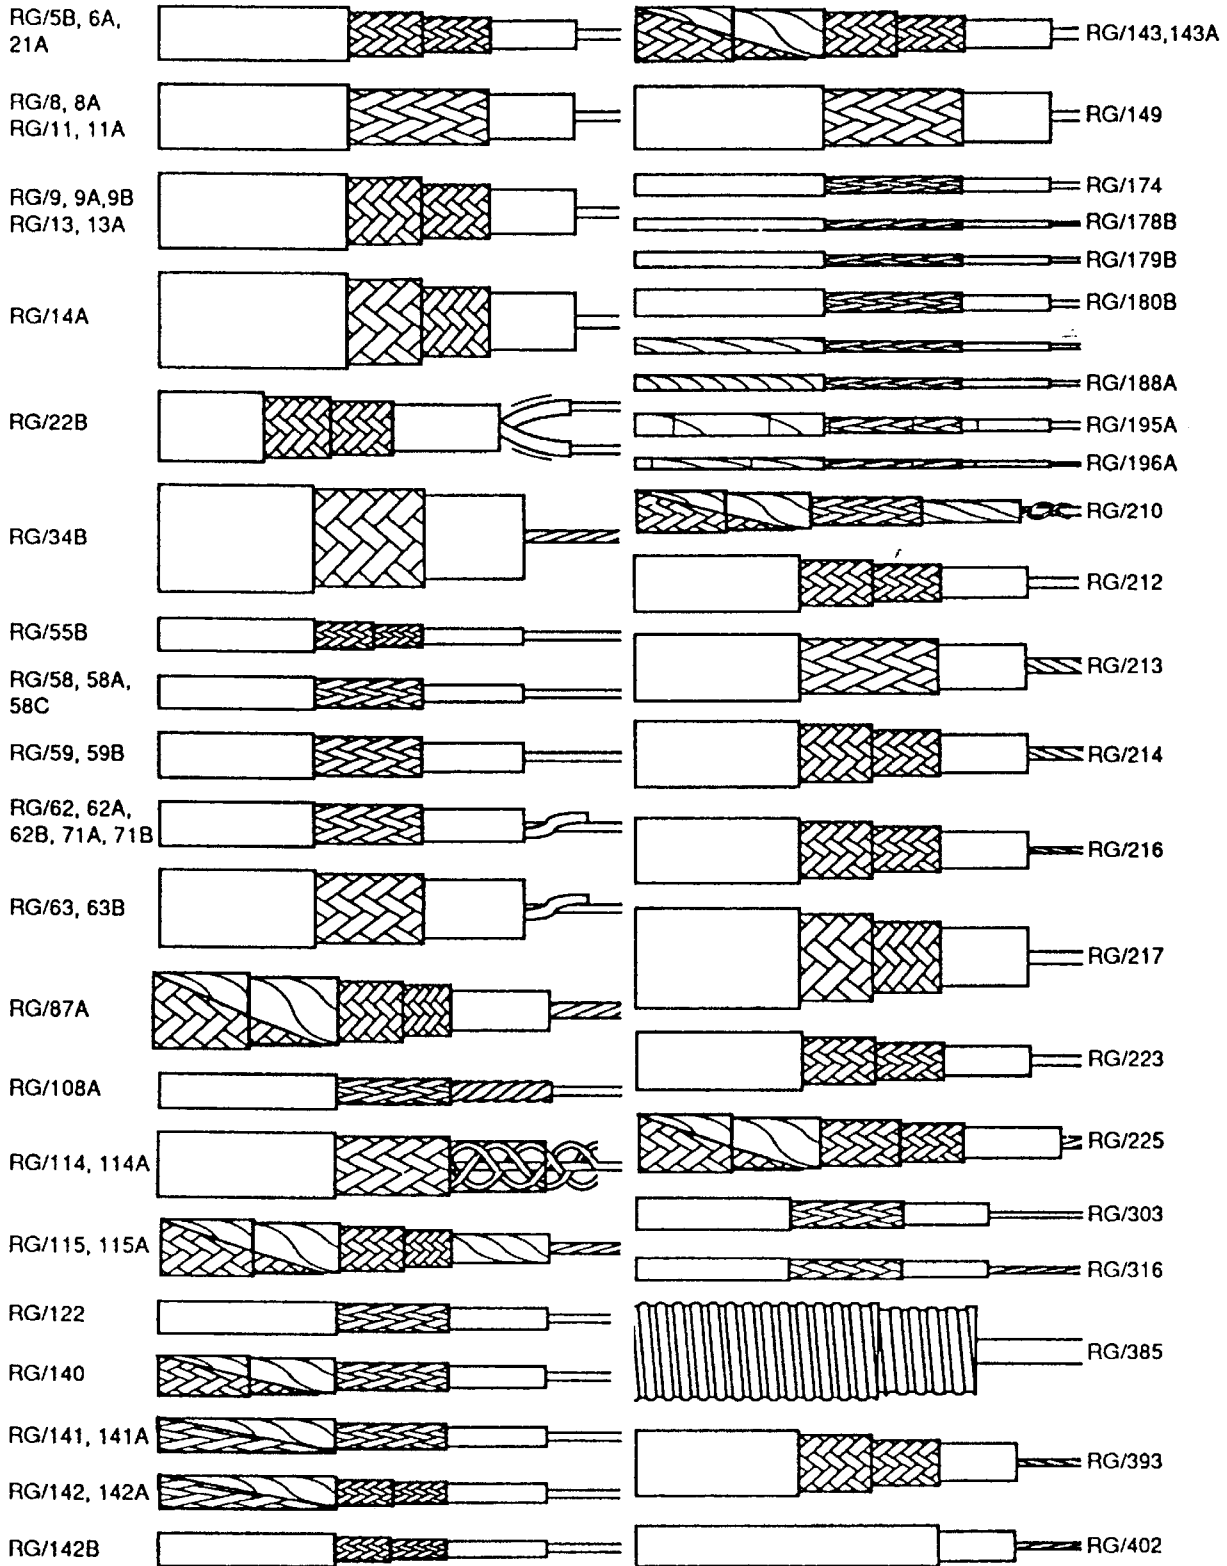

Figure 1. Typical MIL-C-17 Cables
2. The term RF cable usually implies that the cable is used to transmit radio frequency energy of 500 KHz upwards. Coaxial cables are often used in frequencies below 500 KHz and have many applications in the audio frequency range. All RF cables are commonly called coaxial cables, although they may include multiple conductors separated by multiple insulators. Coaxial cables used at lower frequency are commonly called audio cables. By definition (WP 003 00) audio cables are coaxial cables, because the shield is used as a second conductor. A single conductor shielded and jacketed cable (WP 005 00) looks like a coaxial cable, but the shield is used for EMI/RFI protection, not as a conductor. A coaxial cable is a Radio Frequency (RF) transmission line used for the propagation of Electro-magnetic energy in the transverse mode (TEM). Coaxial cables are commonly known as high frequency cables. The purpose of the Work package is to provide some of the more common characteristics of coaxial cables and replacement information when available.
3. **RF CABLE DESCRIPTIONS.** The cables described herein are the typical types. There are numerous variations depending on the electronic system requirements (Figure 1). When standard cables are not available, designers use MIL-T-81490 Transmission Lines, Transverse electromagnetic mode for guidance. Refer to the specific aircraft manual for repair and installation of these type of cables.